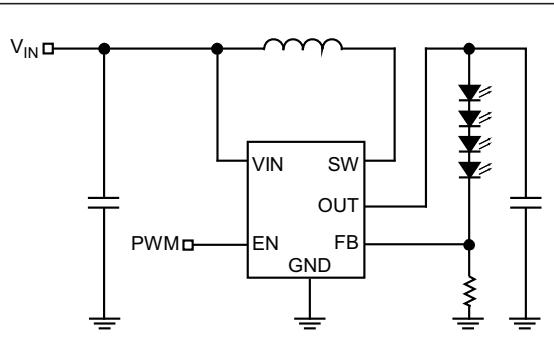

FIGURE 4-1: PWM Dimming Method.
- PWM dimming control is implemented by applying a PWM signal on EN pin as shown in Figure 4-1. The MIC2289 is turned on and off by the PWM signal. With this method, the LEDs operate with either zero or full current. The average LED current is increased proportionally to the duty-cycle of the PWM signal. This technique has high efficiency because the IC and the LEDs consume no current during the off-cycle of the PWM signal. Typical frequency should be between 100 Hz and 10 kHz.